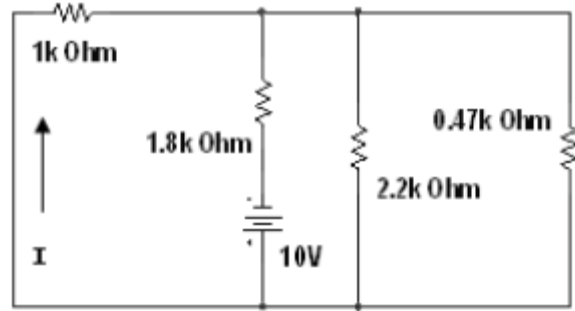

Figure 8b
- 3) Now connect the power supply in series with the $1.8k\Omega$ resistor and measure the current I . See the Figure 8b, and note the polarity of the relocated power source.